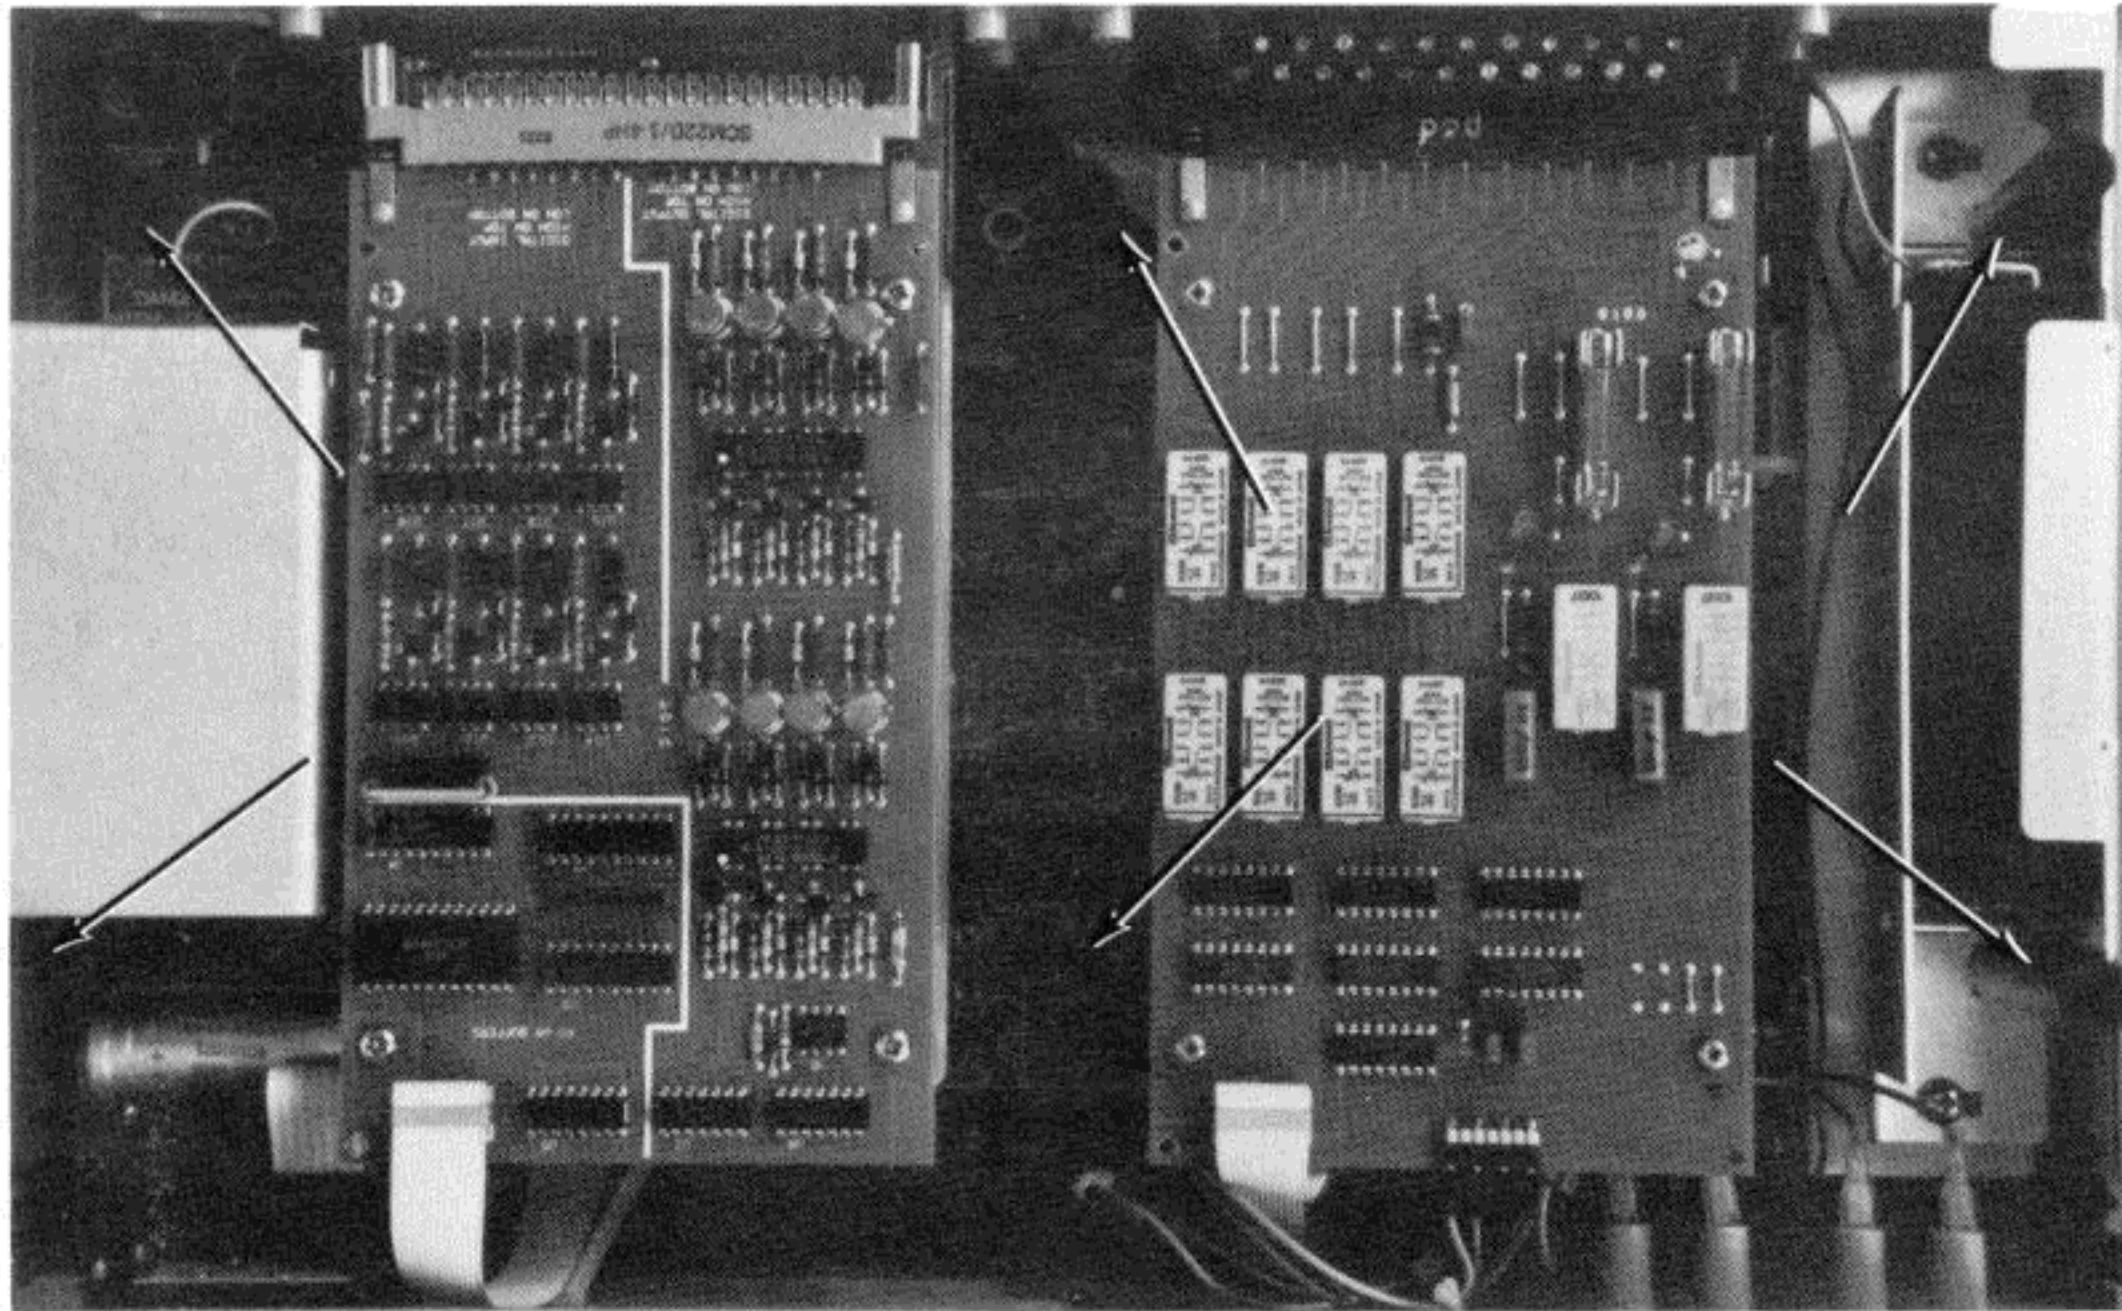

Figure 5-4-4. Plastic Spacer Placement
1. Refer to Figure 5-4-4 and make sure the plastic spacers are in place.